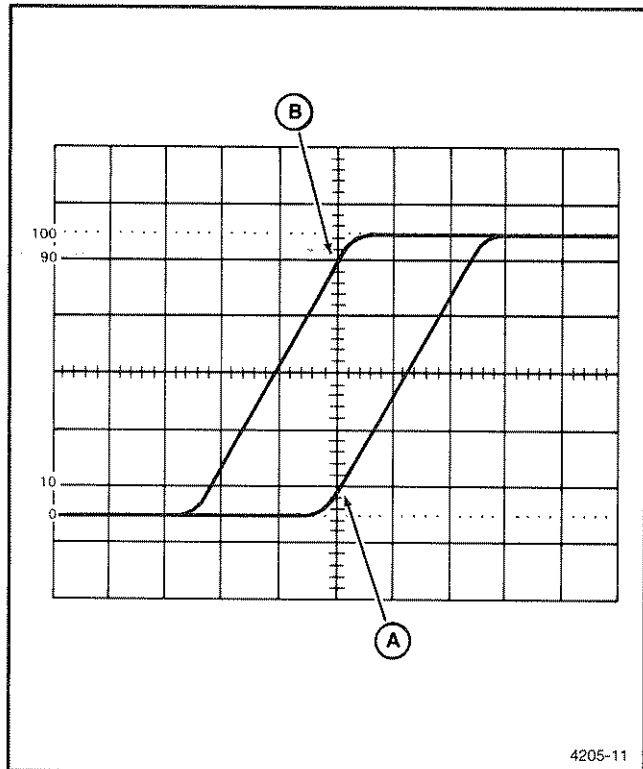

Figure 2-18. Rise time.
10. Adjust the B DELAY TIME POSITION control until the displayed waveform intersects the center vertical graticule line at the 10% point (see Figure 2-18, Point A).
11. Adjust the  $\Delta$  TIME POSITION control so that as the waveform splits into two, the left most one (corresponding to the longer of the two delay times) intersects the center vertical graticule line at the 90% point (see Figure 2-18, Point B).